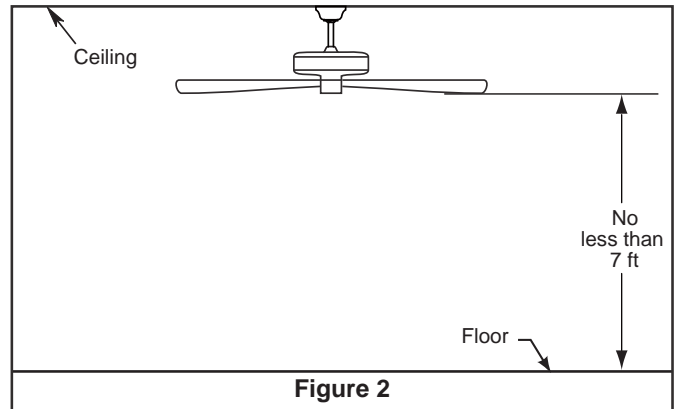

Figure 2
2. Remove the screw cover from the ceiling canopy. (Figure 2)
The fan must be hung with at least 7' of clearance from floor to blades. (Figure 2)